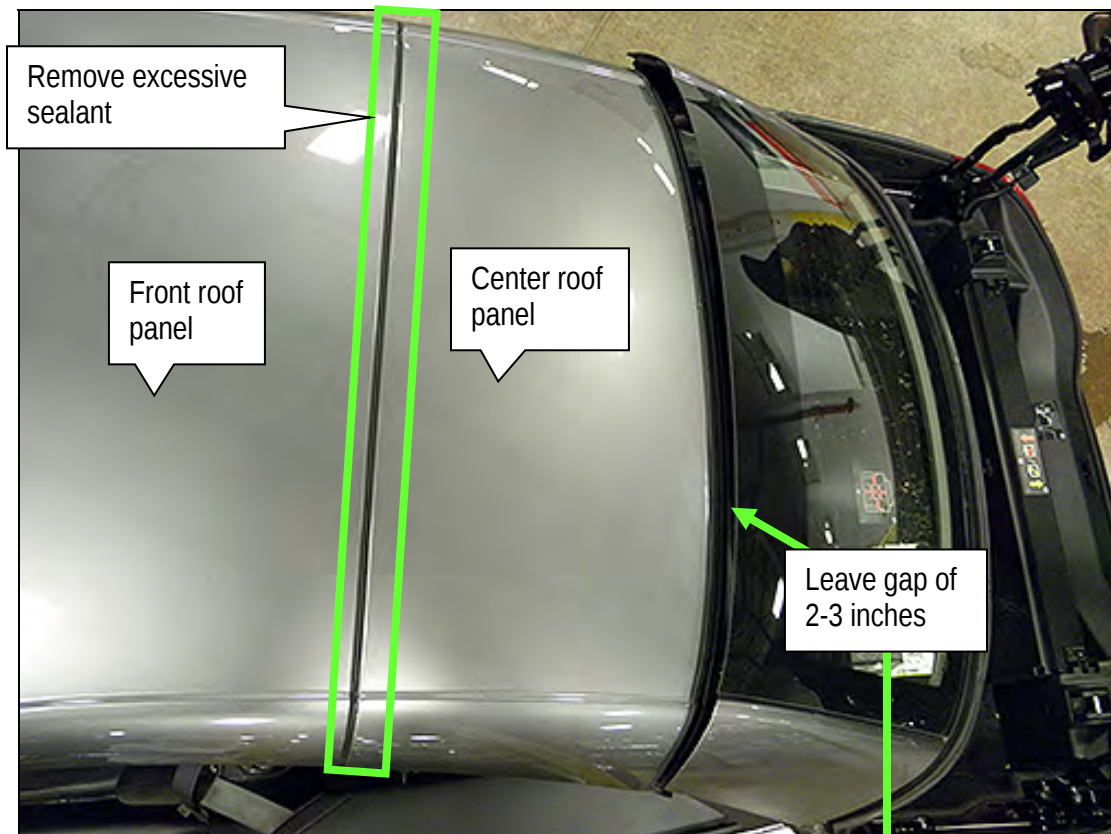

Figure 6
4. Partially close the roof as shown in Figure 6.
5. Remove excess silicone sealant from the front and center roof panels (see Figure 6).